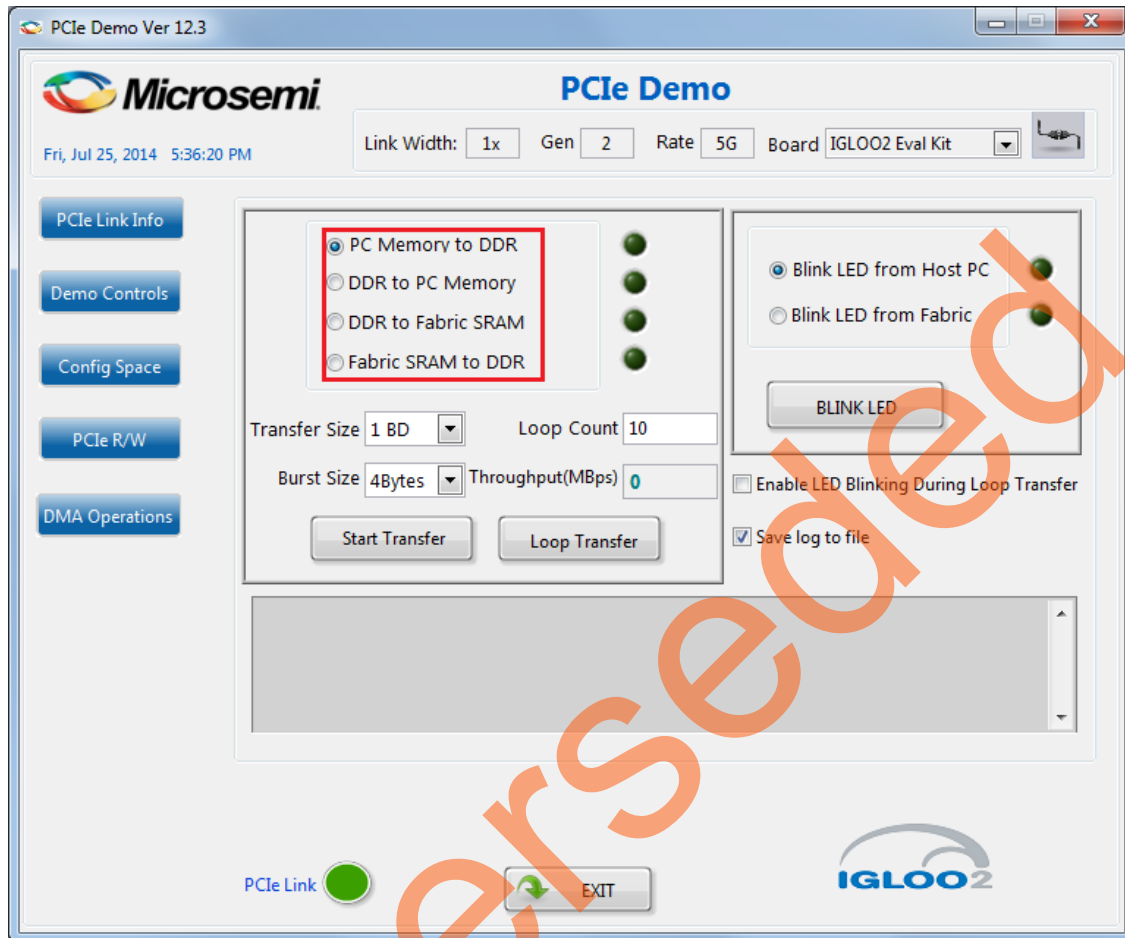

Figure 23 • DMA Operations
14. Click **PCIe R/W** to execute reads and writes to a 32-bit scratchpad register using BAR1 space. Figure 23 on page 27 shows the PCIe R/W panel.